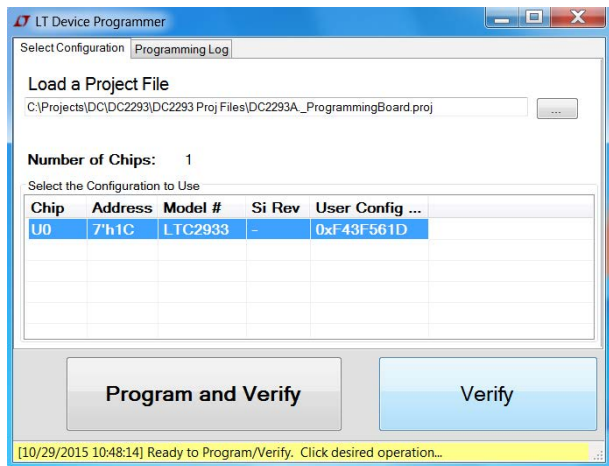

Figure 10. Device Programming Utility.
- Click the “Program and Verify” button (See Figure 10) and wait for the process to complete. After the process is complete, you will see “Successfully Programmed and Verified Device” in the status bar at the bottom. See Figure 11.